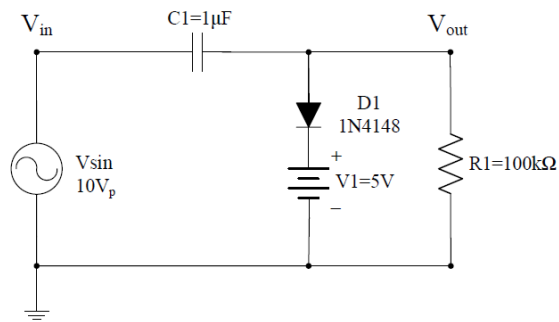

Figure 1
1. Build the circuit in Figure 1. Draw the output that you observe on the oscilloscope for $V_1=5V$.